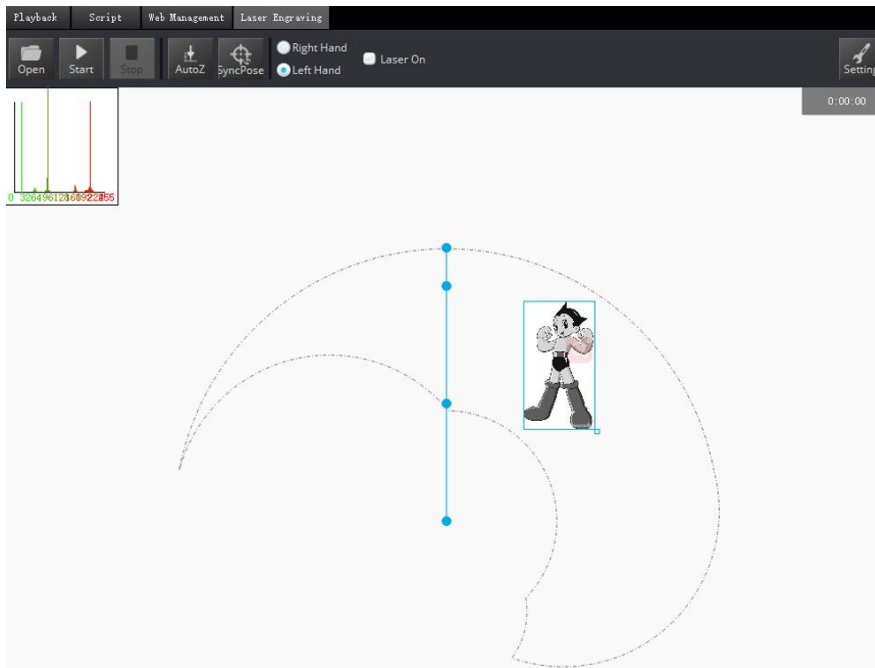

Figure 6.17 Import picture
Step 2 Click **Open** on the Laser Engraving page, and select the picture to be engraved, as shown in Figure 6.17.
- The imported picture should be placed in the annular region, as shown in Figure 6.17. If not, it is unable to engrave normally and the border of the imported picture will be highlighted in red.
- The annular region depends on the arm orientation. Please adjust the imported picture according to the real annular region. Figure 6.17 shows the annular region when arm orientation is left.